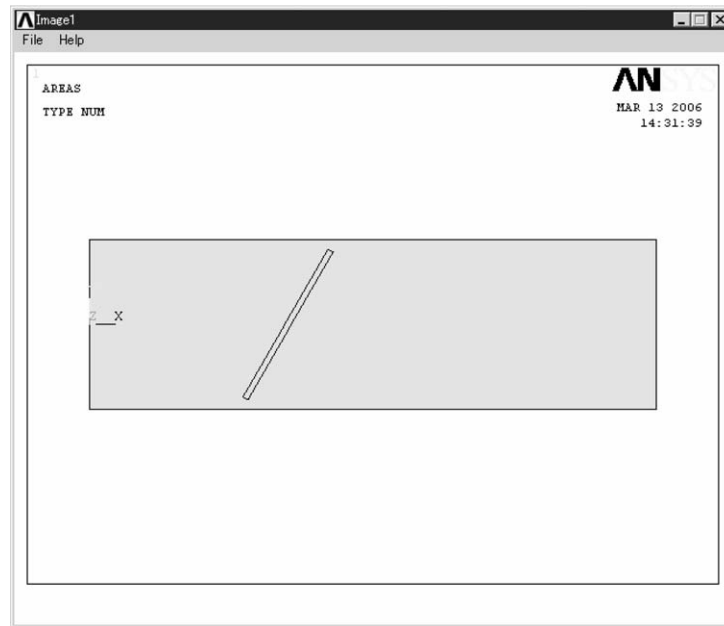

Figure 5.45 ANSYS Graphics window.
- (1) The window **Create Area thru KPs** opens.
- (2) Pick keypoints **1, 2, 3, 4, 5, 6** and **11, 12, 7, 8, 9, 10** in order, and, then, two areas are created on the window as shown in Figure 5.45.
- (3) When two areas are made, click **OK** button in the window **Create Area thru KPs**.